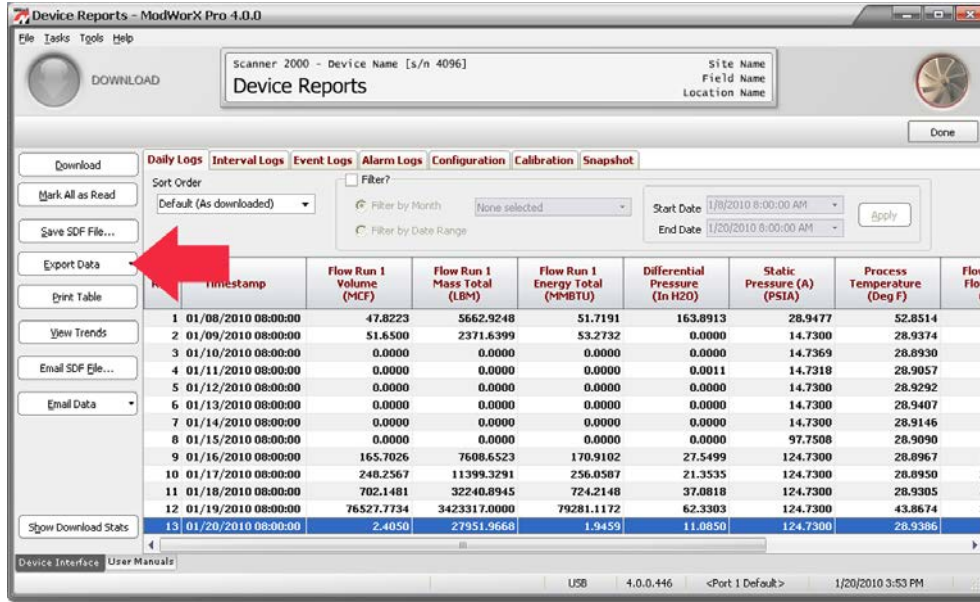

Figure 14.36
1. Click on the appropriate log type tab (Daily, Interval, Events, etc.) to display the reports desired (Figure 14.36, page 200).